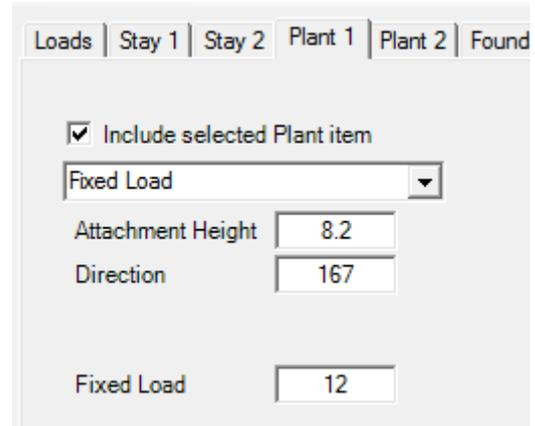

Figure 3: Plant 1 tab
5. Using the *Plant 1* tab add a fixed load (figure 3). The direction will be back towards the pole 1. The *fixed load* magnitude will be the load calculated for the stay wire in step 3.